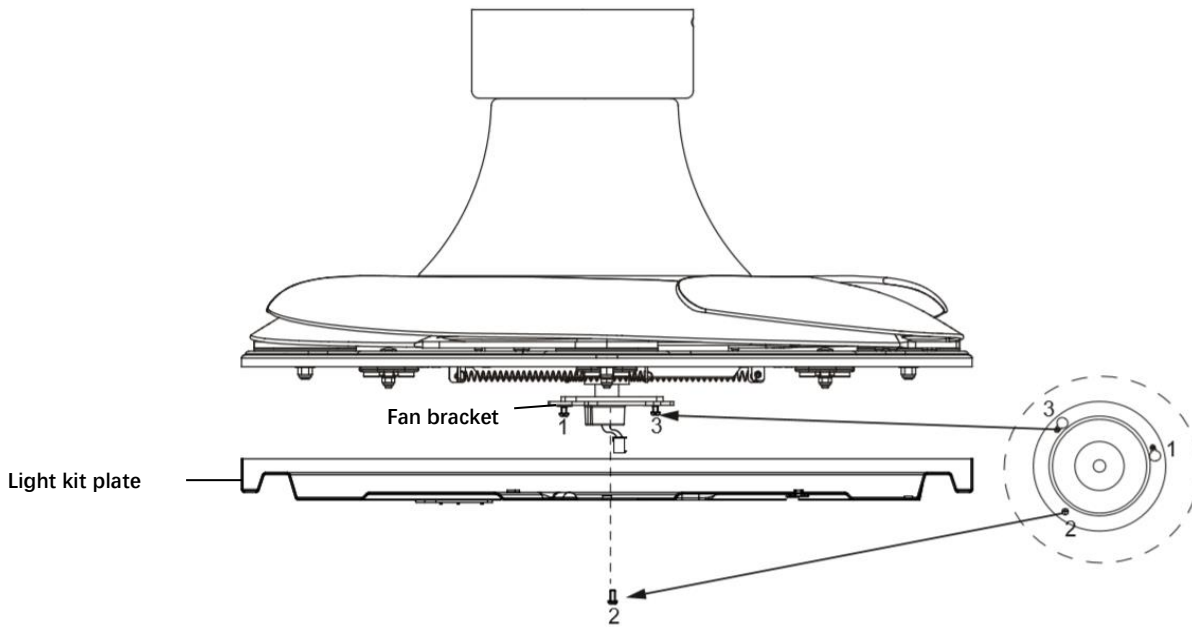

Fig. 6
- Loosen two canopy screws (1) and remove from the mounting bracket.
- Loosen two canopy screws with star washer (2) by half thread from the mounting bracket. (For L-shape slot on canopy to be mounted).
- Lift the hanging canopy (3) of the fan assembly up to the mounting bracket and let the L-shape slot on the hanging canopy (3) go through the two canopy screws with star washer (2).
- Turn the hanging canopy (3) until it locks in place at the end section of the L-shape slot, ensure the star washer are between the hanging canopy (3) and screw head. Secure it by tightening the two canopy screws with star washer (2).
- Secure and tighten the canopy screws (1) to the mounting bracket. The hanging canopy (3) shall have 4 screws (1) & (2) in total. Avoid damaging the electrical wiring prepared previously when hanging the canopy.
**LIGHT KIT INSTALLATION (Fig. 6 & 7)**
1. Loosen the screw (2) from the fan bracket. Align the two slot screws (1 and 3) with the keyhole slots (1 and 3) of the light kit plate . (Fig. 6)
3. Secure screw (2) to the light kit plate. Tighten all three screws. Do not over-tighten.